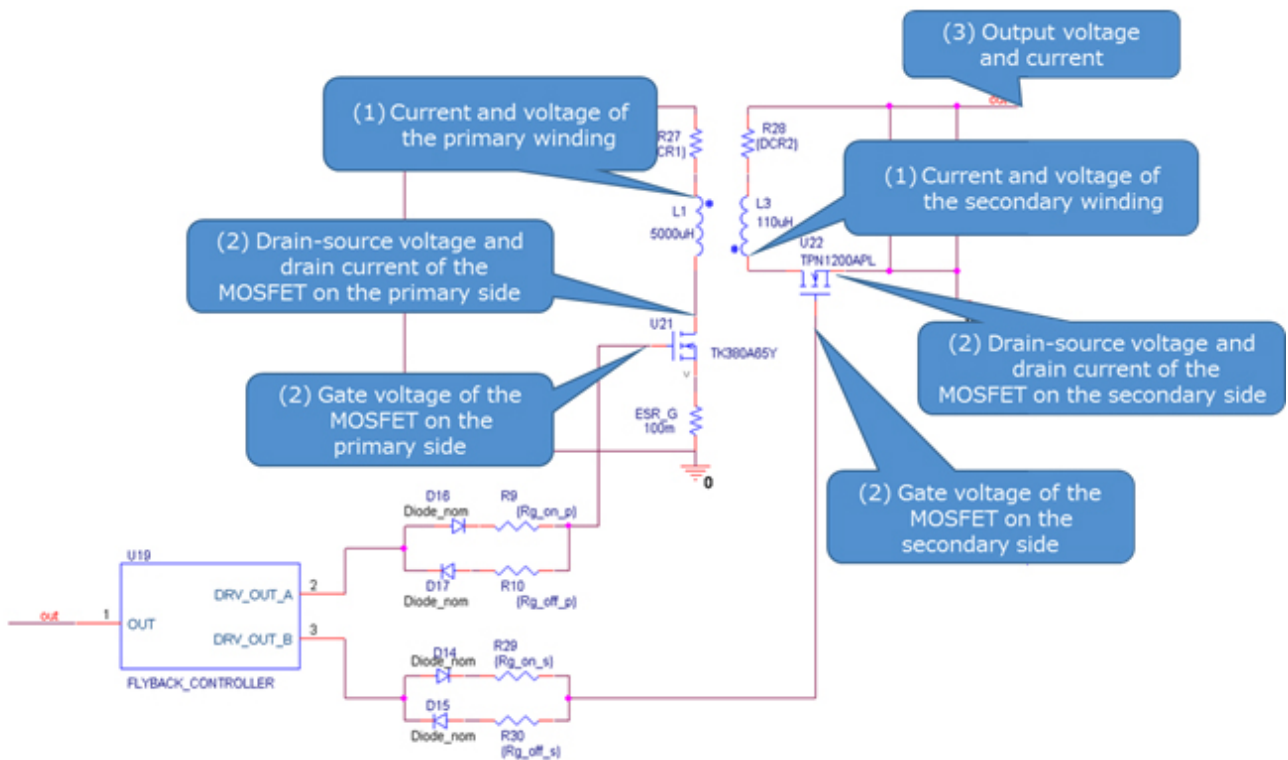

Figure 3.1 Current and voltage measurement points during simulation
This section shows the simulation waveforms at the points (1) to (3) shown in Figure 3.1.
- (1) Basic operation of the flyback AC-DC power supply (current and voltage of the primary and secondary windings related to the flyback operation)
- (2) Synchronous rectification on the secondary side (gate voltage, drain-source voltage, and drain current of the MOSFETs related to synchronous rectification)
- (3) Output voltage and current from the flyback AC-DC power supply